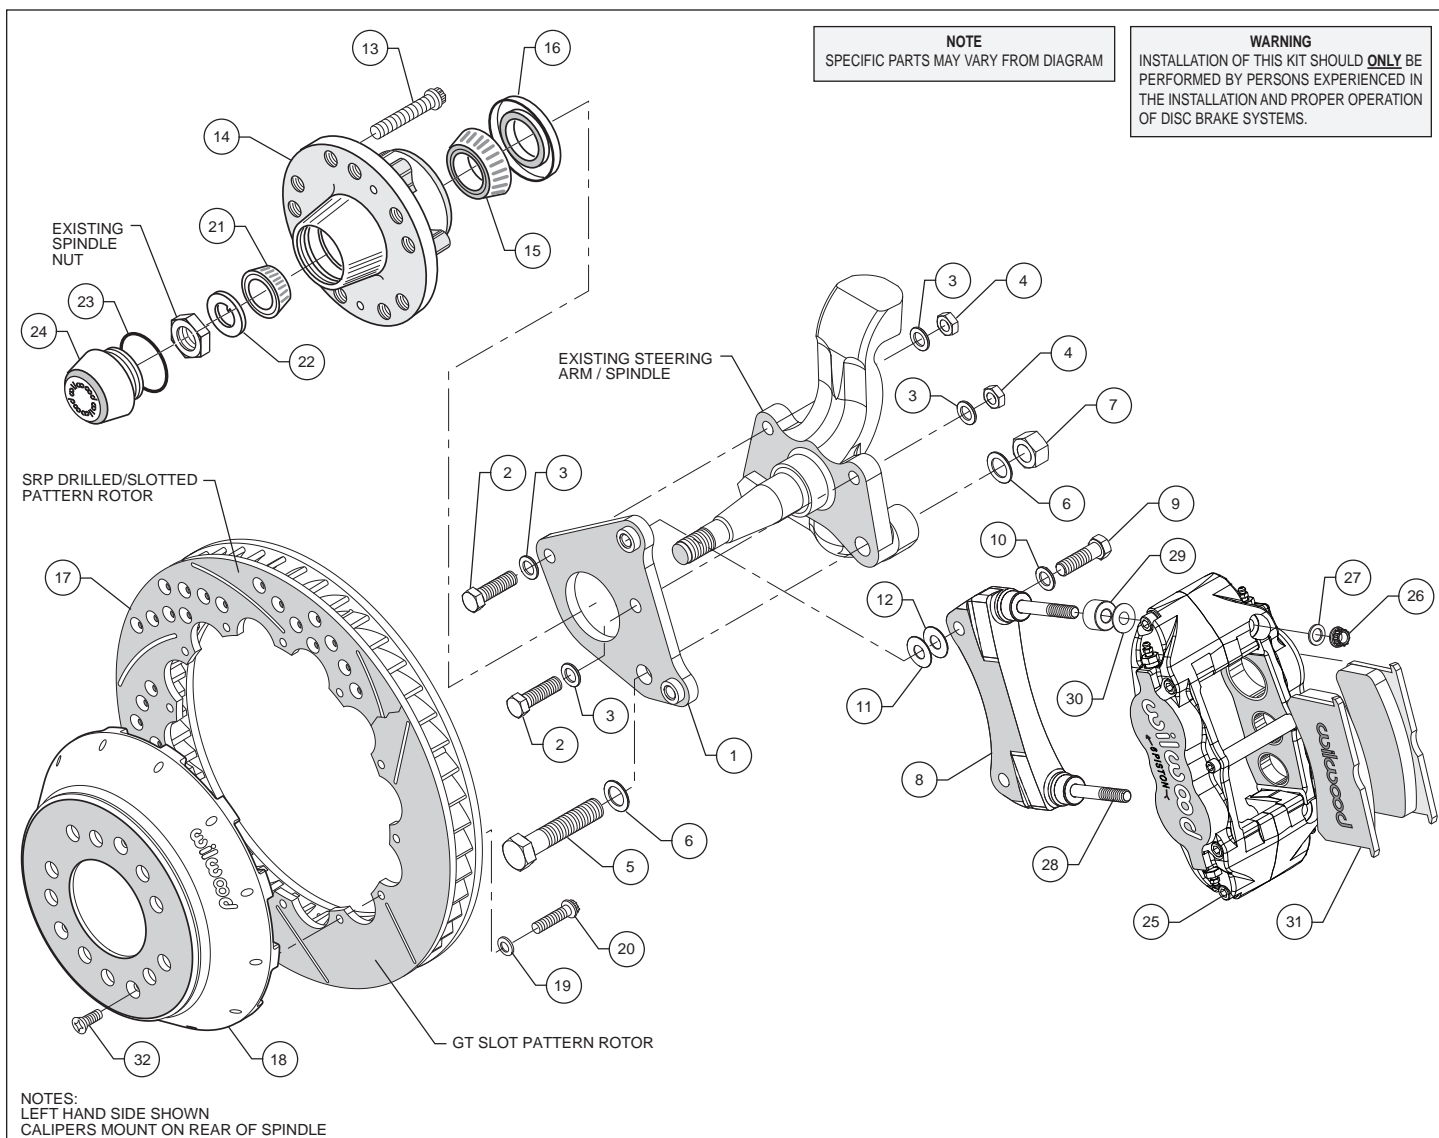
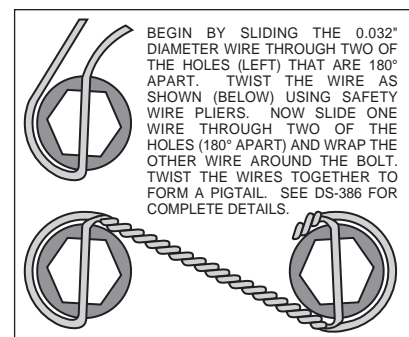

Figure 1. Typical Installation Configuration
Figure 3. Safety Wire Diagram
- Apply red *Loctite*® 271 to bolt threads (2 and 5) before assembly of the flat caliper bracket (1) to backing plate face of spindle. Install bolt (5) and washer (6) through caliper bracket (1), spindle face and the steering arm. Install another washer (6) and lock nut (7) on the rear side. Install two bolts (2) with washer (3) through caliper bracket (1), spindle face and the steering arm. Install another washer (3) and lock nut (4) on the rear side. Torque two bolts (2) to 47 ft-lb. Torque bolt (5) to 140 ft-lb. **NOTE:** Be sure the heads of the caliper bracket (1) insert nuts are facing outward toward the wheel. Reference Figure 1 as necessary.
- The radial caliper mounting bracket assembly (8) should be installed first with clean, dry threads on the mounting bolts. Install the bracket on the inboard side of the flat caliper mounting bracket (1) by sliding bolt (9) through flat washer (10), through the mounting hole in the bracket (8) and into the flat bracket (1) insert nuts. Initially place two shim washers (12) between the two brackets (1 and 8) (see figure 1). The radial bracket (8) must tighten squarely against the inboard side of the flat mounting bracket (1). Later, after the caliper, pad, and rotor alignment has been checked, and any necessary shims have been put in place, the mount bolts should be coated with red *Loctite*® 271 and torqued to 47 ft-lbs.
- Install five new wheel studs (13) into the hub (14). Torque to 77 ft-lb. **NOTE:** There are two five lug patterns in the hub (5 x 4.00 and 5 x 4.50). Make sure of the correct hole pattern for the correct wheel application before installing studs into hub.
- Pack the large inner bearing cone (16) with high temperature disc brake bearing grease (available from your local auto parts store) and install into the backside of the hub (14).
- Install the grease seal (16) by pressing into the backside of the hub (14).
- With the larger I.D. side of the rotor (17) facing away from the hat (18), bolt rotor (17) to hat (18) through the backside of the rotor using washers (19) and bolts (20). Using an alternating sequence, apply red *Loctite*® 271 to the threads and torque bolts to 155 in-lb. For an added measure of security, the bolts may be safety wired using standard 0.032 inch diameter stainless steel safety wire as shown in Figure 3. Please refer to Wilwood's data sheet DS-386 (available at [www.wilwood.com/Pdf/DataSheets/ds386.pdf](http://www.wilwood.com/Pdf/DataSheets/ds386.pdf)) for complete safety wire installation instructions.
- Pack the small outer bearing cone (21) with high temperature disc brake bearing grease. Lightly coat the spindle bearing surfaces with bearing grease. Slide the hub assembly (13, 14, 15 and 16) with outer bearing cone (21) onto the spindle. Secure using spindle washer (22), existing adjusting nut and nut locking device.
- Install the dust cap (24) onto the hub (23). Friction created by the o-ring (23) on the dust cap (24) keeps it from unscrewing. The O.D. of the existing spindle washer may be larger than the I.D. of the dust cap (24) which may allow the washer to contact the dust cap (24). Use the spindle washer (22) supplied with the kit instead of the stock washer.
- **NOTE:** *This kit contains distinct right and left hand calipers that must be mounted in a specific direction, as described below.* Lubricate the caliper mounting studs (28) with lightweight oil. Initially place two .035" thick shims (29) and one spacer (30) on each stud as shown in Figure 1. Mount the caliper (25) onto the bracket (8) using lock nuts (26) and washers (27), Figure 1. Ensure that the caliper is mounted so that the largest pistons are at the rotor exit end of the caliper, in relation to the direction of rotor rotation. Temporarily tighten the lock nuts and view the rotor through the top opening of the caliper. The rotor should be centered in the caliper. If not, adjust by adding or subtracting shims (11 and/or 12) between the radial bracket and the spindle bracket. Always use the same amount of shims on each of the two mounting bolts.
- Remove the caliper center bridge pad retainer bolt, nut, and tube from the caliper. Slide the brake pads (31) into place. They should install easily without interference. Check that the outside radius of the brake pad is flush with the outside diameter of the rotor face. Add or subtract shims (30) between the caliper and radial mounting bracket to gain the proper alignment. Reinstall the center bridge pad retainer tube, bolt, and locknut. The locknut should be snug without play in the bolt or tube. Be cautious not to over tighten.
- Once all clearances have been checked, remove the wheel, caliper, hat, and rotor from the spindle and hub. Secure the radial caliper mounting bracket (8) to the flat caliper mounting bracket (1) using red *Loctite*® 271. Torque the bolts to 47 ft-lbs. Reinstall the hat and rotor assembly and again use several lug nuts to hold it in place. Reinstall the caliper, torque the caliper nuts (26) to 28 ft-lbs.
- Install three flat head socket screws (32) through the small holes in the hat (18) and torque to 85 **in-lb**.